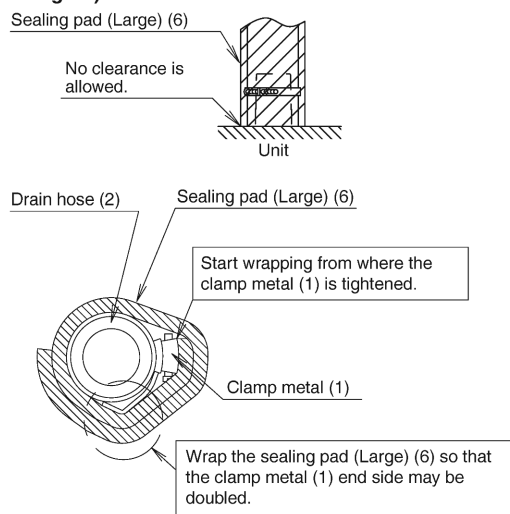

Fig. 18
- Use the provided sealing pad (large) (6), and perform the thermal insulation of the clamp metal (1) and drain hose (2) after checking the drainage of water. (Refer to Fig. 18)